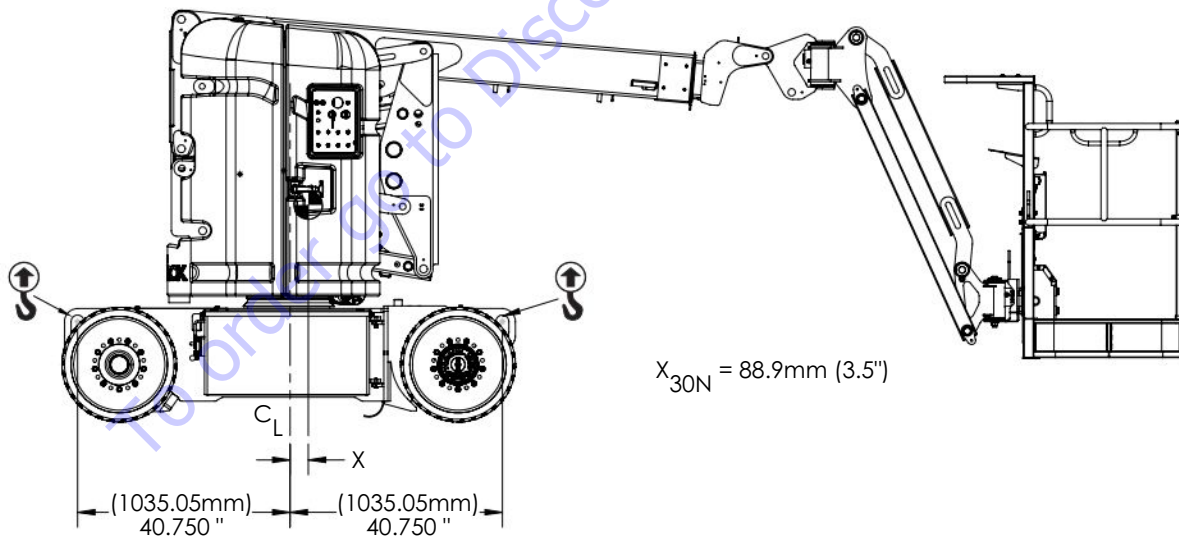

Figure 26 Lifting points/center of gravity
When lifting the MEWP, lifting devices must be attached to designated lift points only (refer to Figure 26).
4. Properly adjust rigging to ensure MEWP remains level during lifting. See Center of gravity location (Figure 26).